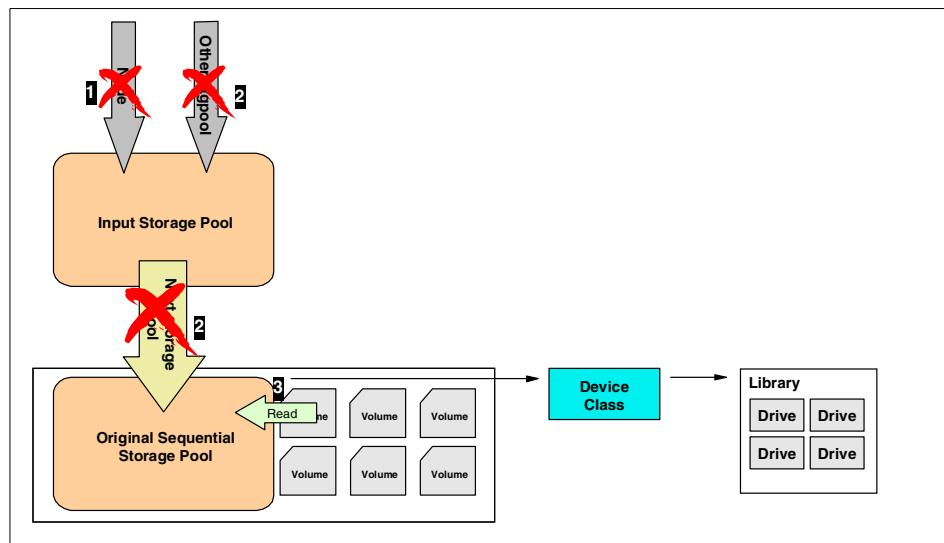

Figure 79. Preparing server storage pools before migration
1. The first phase in the migration will prepare the Tivoli Storage Manager server for the migration. Its main purpose is to disable all data movement between storage pools, and to create an image of the server just before the migration (see Figure 79).
- b. Disable the server for client operations (1). Also, disable all administrative schedules that might have an influence on the storage pools (for example, database backup, migration, reclamation, and storage pool backup processes).
- Update the input storage pool so that it will not migrate. This can be done by setting the HIGHMIG value of the disk storage pool to 100. Also, update this value on all storage pools that might migrate to the input storage pool (2).
- Update the original tape storage pool, setting all volumes to read only (3), and the MAXSCRATCH parameter to zero. Also set the REUSEDDELAY parameter to a value that will allow you to reuse the database backup created in step 1a on page 169. Although both are not directly related, setting the REUSEDDELAY parameter will allow